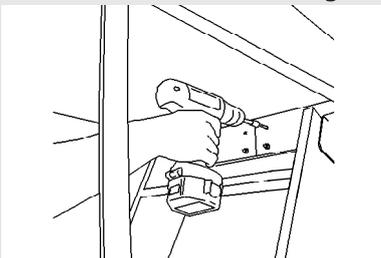

fig 13
5. From a step ladder or saw stool or similar (not the attic stair), fix the hinge end of the stair to the ceiling framing through the two outer predrilled holes in the hinge plates (figure 13). Use the 65mm Timbertight screws supplied or something similar. Do not fit tight yet.